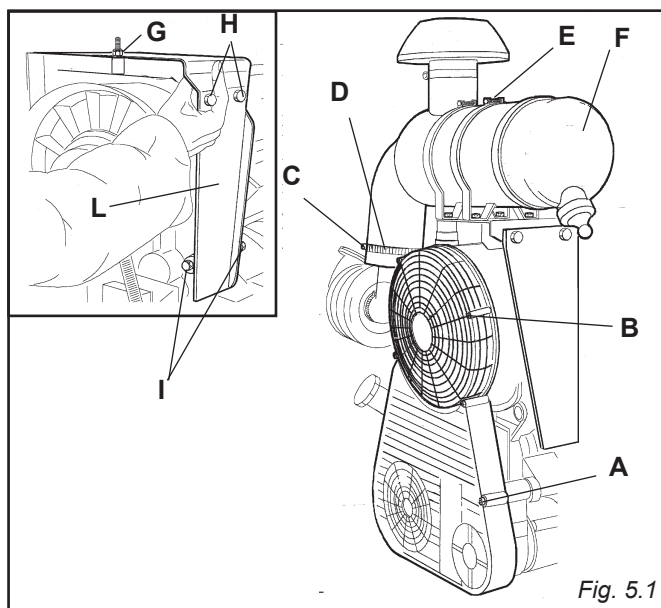

Fig. 5.1
5.1 BELT GUARD (FIG. 5.1)
5.2 FAN COVER (FIG. 5.1)
5.3 AIR FILTER (FIG. 5.1)
5.4 FILTER SUPPORT (FIG. 5.1)